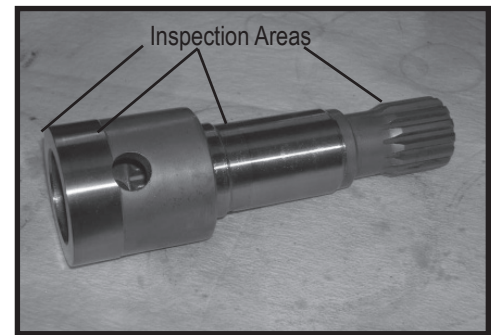

Figure 21
- 15. Remove coupling shaft (12), by pushing on the output end of shaft. SEE FIGURE 20. Inspect coupling shaft bearing and seal surfaces for spalling, nicks, grooves, severe wear or corrosion and discoloration. Inspect for damaged or worn internal and external splines or keyway. SEE FIGURE 21. Replace coupling shaft if any of these conditions exist.